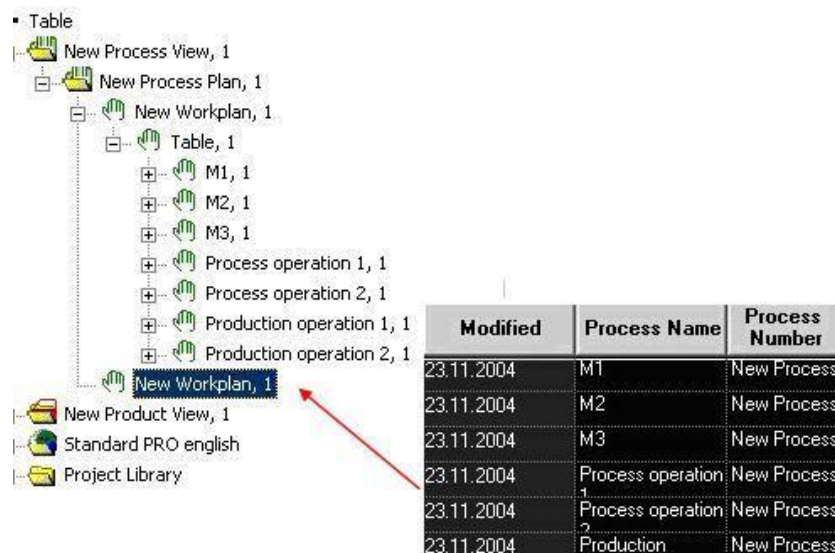

Figure 144: Linking Objects in the Browser by Drag and Drop
- The processes in the table are assigned to this new plantype by drag and drop. *Please refer to the* Figure 144.